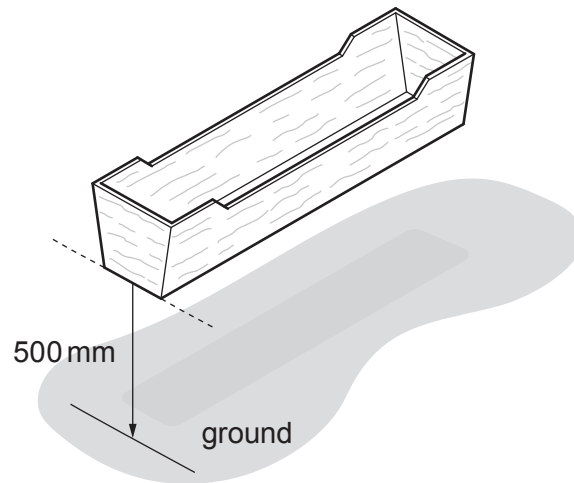

Fig. 13.4
- (f) The plant holder could be freestanding rather than wall-mounted. Fig. 13.4 shows the plant holder 500 mm above the ground.